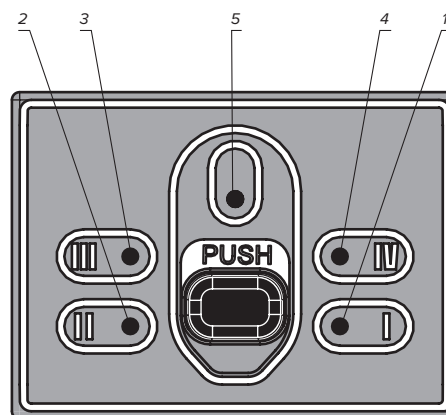

Fig. 15
Each of the filtration units has an individual light indication (Fig. 15): indicators 1 and 2 correspond to cartridges K1 and K2 of the water pre-treatment unit, indicator 3 corresponds to the reverse osmosis membrane unit, and indicator 4 corresponds to the water conditioning unit.
**Light indicator 5** (see Fig. 15) starts flashing in the event of a malfunction; it is solid the rest of the time, informing that your RO-202S is connected to the power supply.